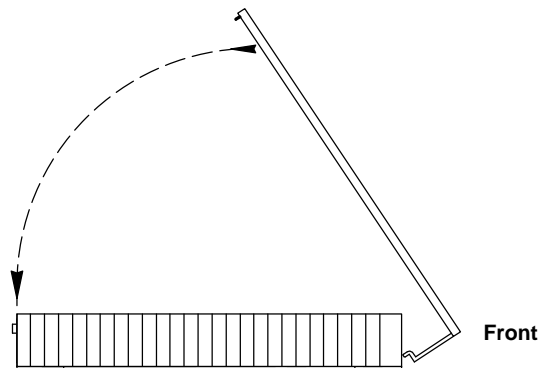

Figure 4-10. Installing the System Unit Cover
1. Align the cover hinge tabs with the chassis tab slots on the bottom front of the system. Make sure the tabs are locked into the chassis slots. Lower the cover onto the chassis. See Figure 4-10.